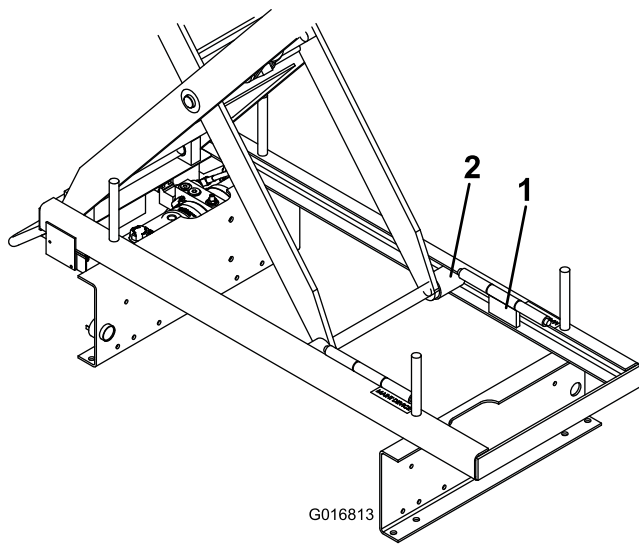

Figure 18
6. Rotate both the safety locks, from their storage positions, until they rest inside the base frame, thus in the path of the scissors rollers (Figure 18).